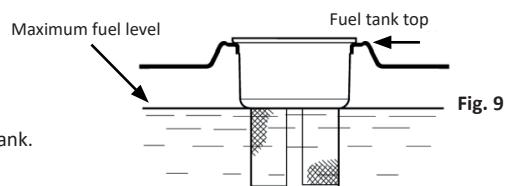

Fig. 9
**Filling the tank and checking the fuel level (Fig. 9)**